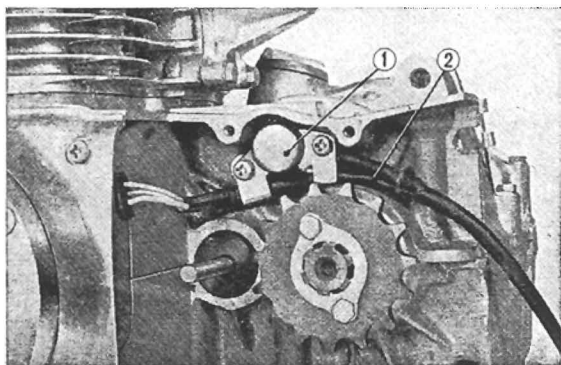

Fig. 3.89 Neutral switch and generator cord clamp
- Remove the neutral switch. (Fig. 3.89)